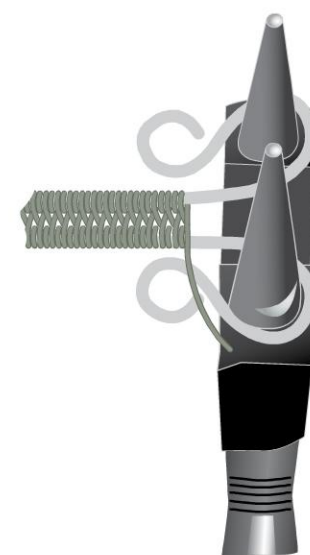

figure 5
- 9 The two large loops can be left together or flared out. To flare the loops out, stick the barrels of round-nose pliers in the large loops, then slowly open the pliers, separating the frame wires, or flare the loops out by carefully pulling them apart with your fingers (Figure 5).